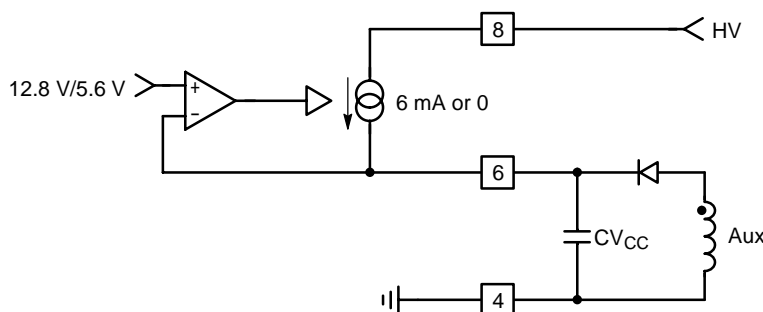

Figure 16. The Current Source Brings V_{CC} Above 12.8 V and then Turns Off
12.8 V), the current source turns off and no longer wastes any power. At this time, the V_{CC} capacitor only supplies the controller and the auxiliary supply is supposed to take over before V_{CC} collapses below $V_{CC_{min}}$. Figure 16 shows the internal arrangement of this structure.